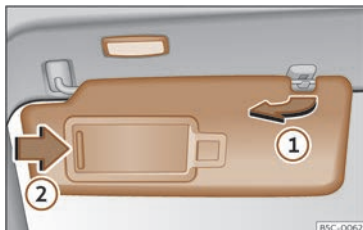

Fig. 102 Sun visor
- The sun visor can be pulled out of its mounting and turned towards the door >>> **Fig. 102** ①.